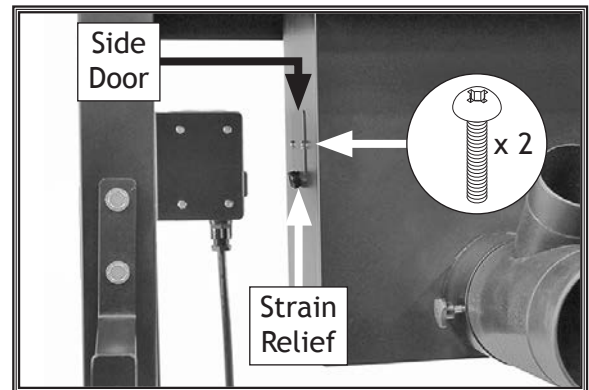

Figure 10. Location of dust enclosure side door.
2. Loosen (2) 10-24 x $\frac{3}{8}$ " Phillips head screws (see **Figure 10**) securing side door on dust enclosure, and feed router power cord through opening.
5. Install $\frac{1}{2}$ " strain relief (see **Figure 10**) on router power cord where it emerges from dust enclosure side door and secure by tightening screws.